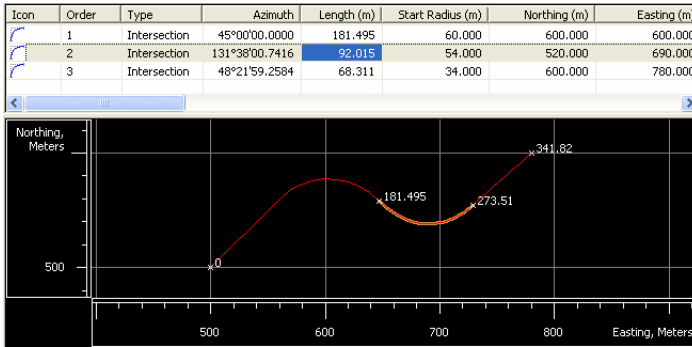

Figure 9-54. Table and Graph Pane for the Created Compound Curve
- Click **OK** to create the compound curve. The *Table* and *Graphic* pane of the right panel of the *Road* tab displays the created compound curve (Figure 9-54).